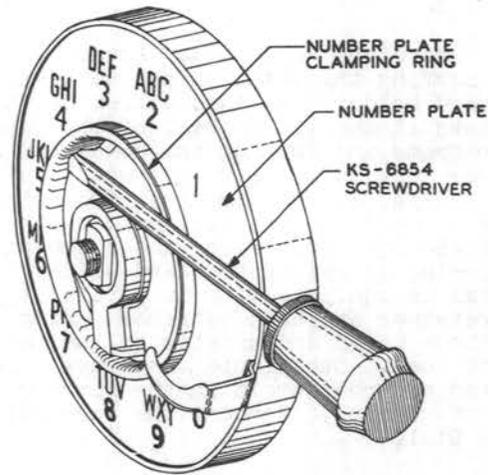

Fig. 14 - Method of Removing the Number Plate Clamping Ring on Dials Equipped With 132-type Number Plates
3.10 2-, 4-, and 5-type Dials: To replace the number plate or number plate clamping ring, first remove the finger wheel or the finger wheel and clamp plate as described in 3.05 or 3.07 and 3.09, then remove the number plate clamping ring with the fingers when the dial is equipped with other than a 132-type number plate. When the dial is equipped with a 132-type number plate, use the KS-6854 screwdriver, as shown in Fig. 14, in order to avoid chipping the enamel on the number plate. Do not apply the end of the screwdriver to the outside of the clamping ring. Remove the number plate if it is to be replaced. Make the necessary substitution of parts and reassemble in the reverse order.